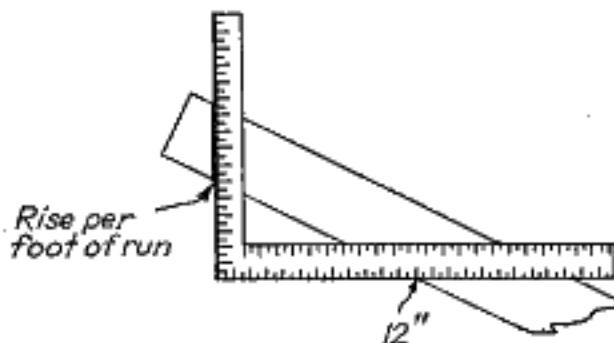

FIG. 98.—Marking the upper plumb cut.
**124. Marking the Ridge or Upper Plumb Cut.**—This is done by placing the square near one end of the stock (Fig. 98) with 12 on the body and a number on the tongue that corresponds to the rise per foot of run,